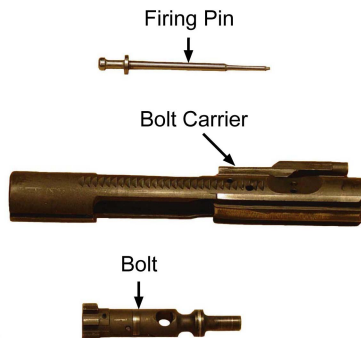

Figure 3-52. Bolt Carrier Group
- f. Apply light coating of CLP. Pay special attention to slide and cam pin area. Refer to Figure 3-52.